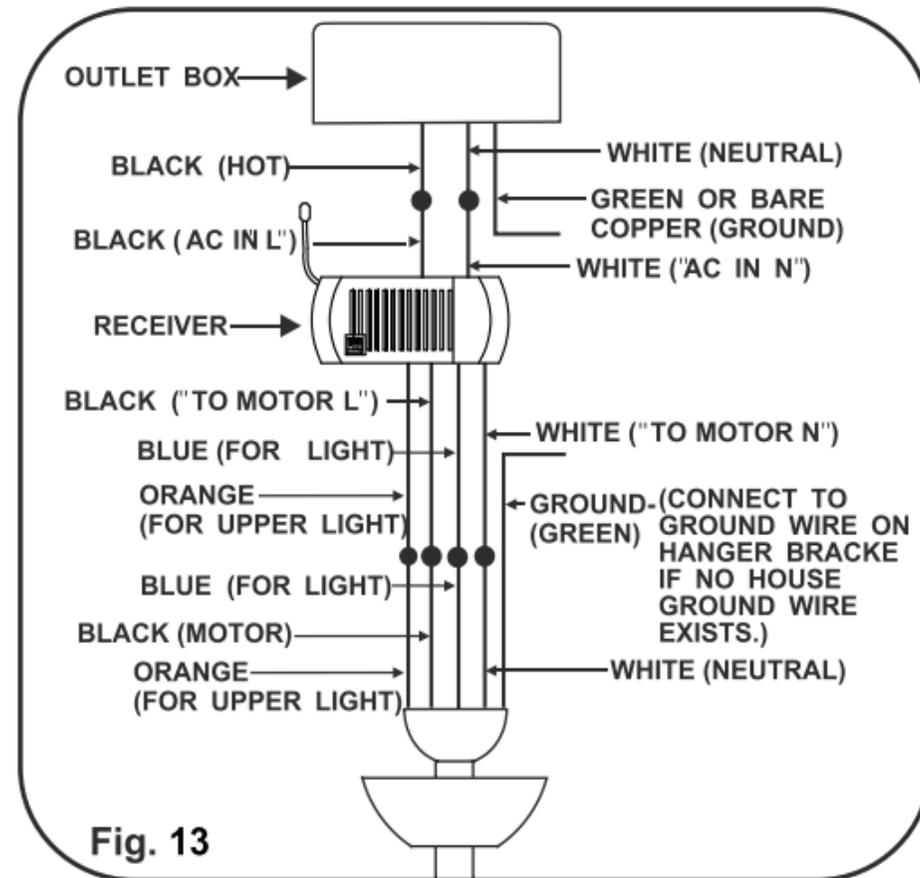

Fig. 13
NOTE: If your ceiling fan features an UP Light: Connect the ORANGE wire from the fan to the ORANGE wire marked "For Up Light" from the Receiver. Otherwise disregard this step and proceed to secure all wire connections with the plastic wire nuts provided. (Fig.13)
Step 3. Receiver to House Supply Wires Electrical connections: Connect the **WHITE** wire (Neutral) from the outlet box to the **WHITE** wire marked "AC in N" from the receiver. Connect the **BLACK** wire (Hot) from the outlet box to the **BLACK** wire marked "AC in L" from the receiver. Secure all wire connections with the plastic wire nuts provided. (Fig.13)
Step 4. If your outlet box has a **GROUND** wire (Green or Bare Copper) connect this wire to the Hanger Ball and Hanger Bracket Ground wires. If your outlet box does not have a Ground Wire, then connect the Hanger Ball and Hanger Bracket Ground Wire together. Secure wire connection with the plastic wire nut provided. (Fig. 13)